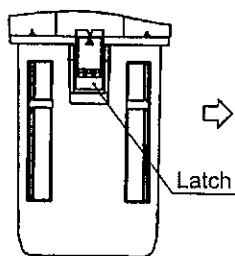

Fig. 1
- (f) When establishing a vacuum in the container again, confirm that the latch is securely inserted in the concave section of the body. (Fig. 1)